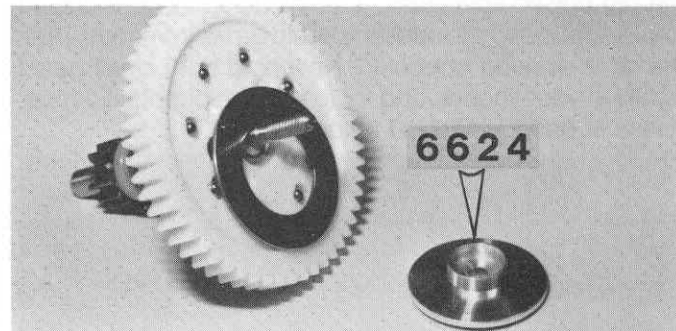

Fig. 76
□ **Fig. 76** Slip the drive ring on the shaft and take the #6624 dif outer hub.